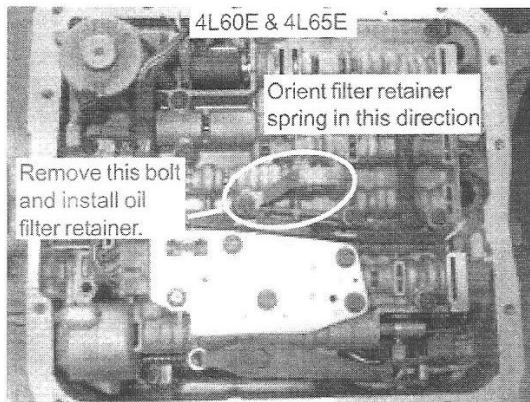

Figure 1
3. The filter must be held in place with the supplied oil filter retainer. This retainer is held in place by one of the valve body bolts (See Figure 1 and 2). Refer to the transmission you have and remove the bolt shown and install the supplied oil filter retainer (point the oil filter retainer towards the front of the vehicle as shown). Tighten the bolt to 8 lbs.-ft.-do not over tighten!